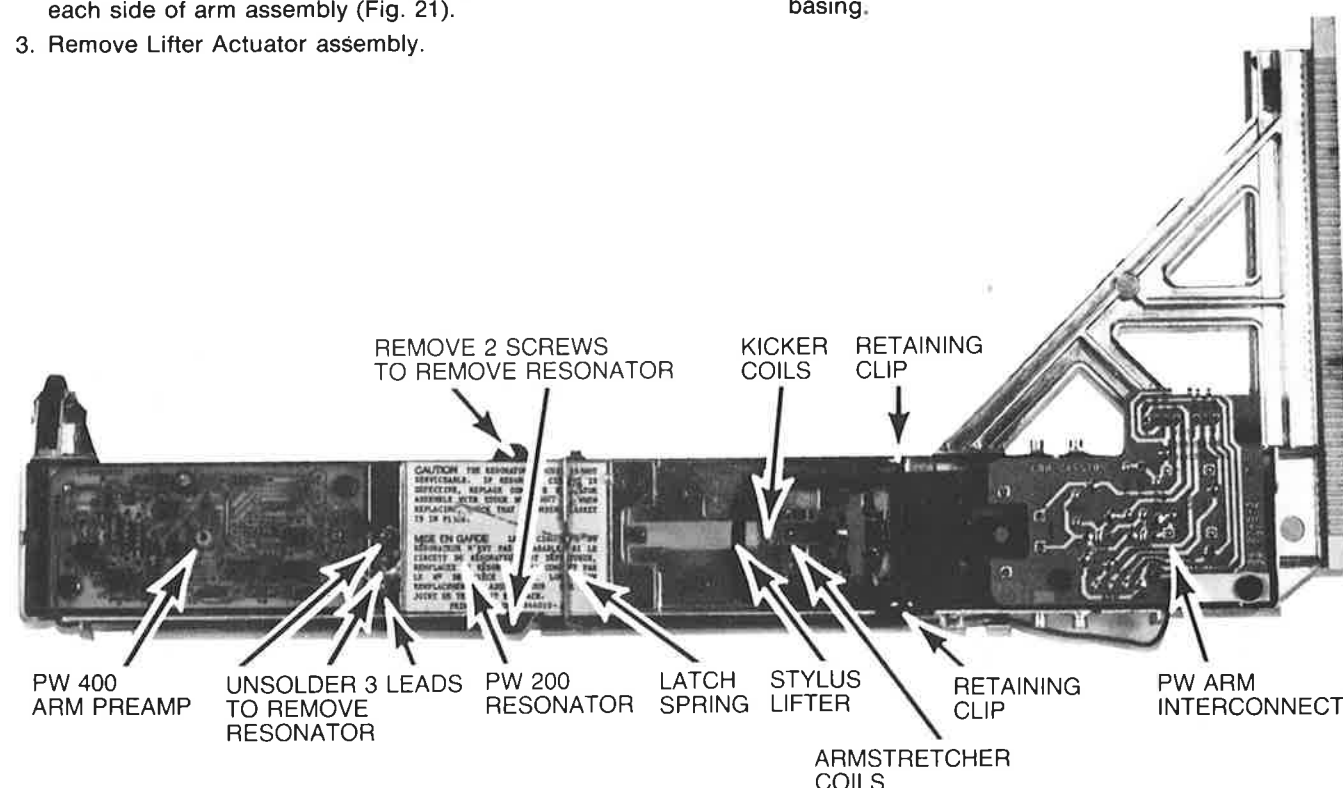

Fig. 21—Arm Assembly SJT 100/200
2. Remove two (2) posi-drive (+ head) screws holding resonator captive and remove stylus cover latch spring (Fig. 21).
3. Unsolder three (3) wires connected to feed-thru studs on resonator.
2. Remove two (2) lifter pivot retaining clips—one (1) each side of arm assembly (Fig. 21).